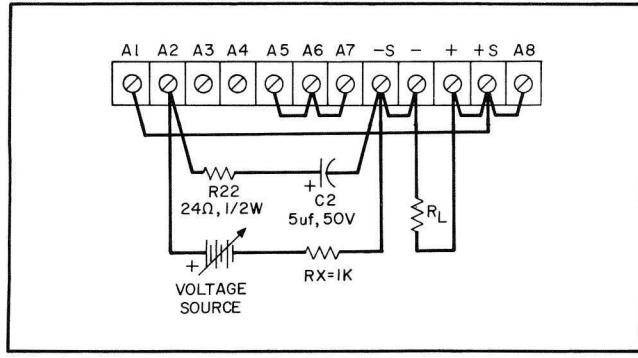

Figure 3-4. Remote Voltage Programming, Constant Voltage (Unity Gain)
**3-46 Voltage Programming, Unity Gain (Figure 3-4).** Employ the strapping pattern shown in Figure 3-4 for voltage programming with unity gain. In this mode, the output voltage will vary in a 1-to-1 ratio with the programming voltage (reference voltage) and the load on the programming voltage source will not exceed 20 $\mu$ A. Impedance matching resistor ( $R_x$ ) is required to maintain the temperature coefficient and stability specifications of the supply; resistor-capacitor combination  $R_{22}$ - $C_2$  is required to reduce ripple in the supply output.